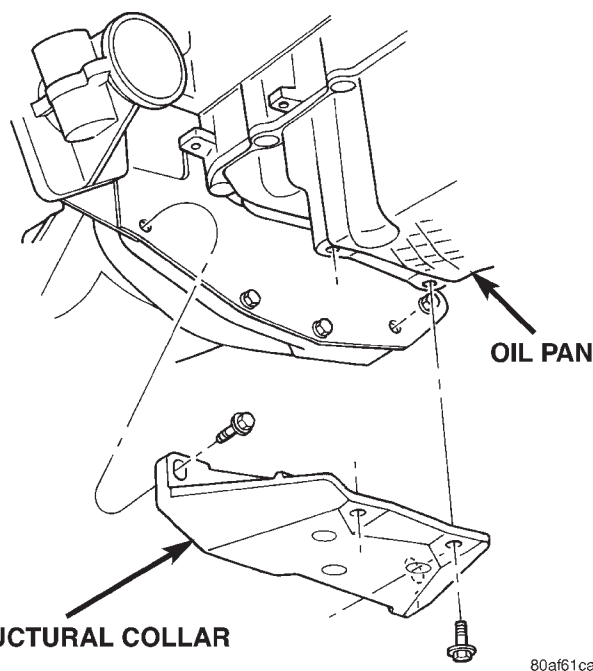

Fig. 66 Structural Collar—Removal and Installation
- (1) Drain engine oil.
- (2) Remove front engine mount bracket. Refer to Engine Mount—Front, in this section for procedures.
- (3) Remove powertrain bending strut.
- (4) Remove structural collar from oil pan to transaxle (Fig. 66).
- (5) Remove transaxle lower dust cover.
- (6) If equipped with air conditioning remove oil filter and adaptor. Refer to Oil Filter Adapter Removal and Installation in this section.
(8) Install the structural collar (Fig. 66) using the following 3 step torque sequence:
(9) Fill engine crankcase with proper oil to correct level.